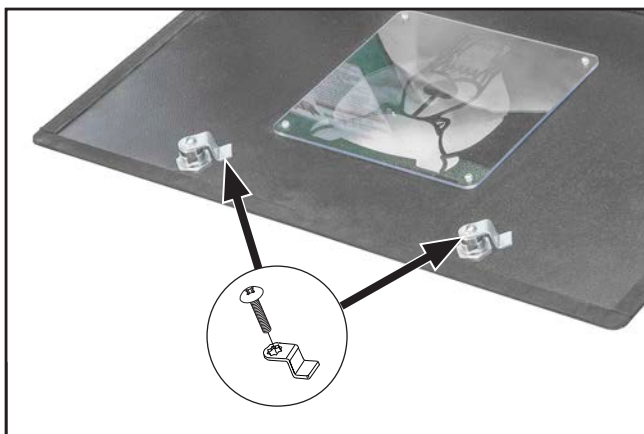

Figure 13. Latch plates attached to lock handles.
8. Fully tighten lock handle nuts, then attach latch plates to lock handles with M5-.8 x 5 truss head Phillips screws (see **Figure 13**).